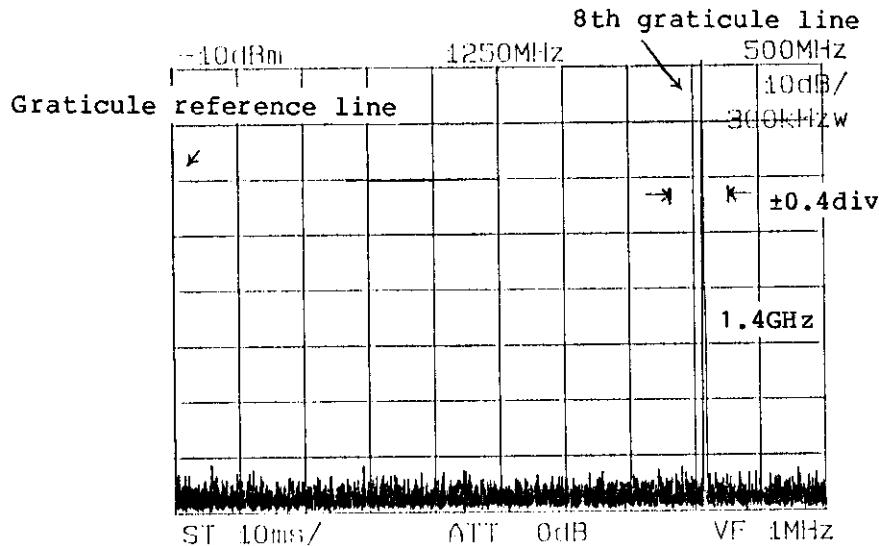

Figure 11-3 Frequency Span 500 MHz Test
- (8) Set the output of TR4511 synthesized signal source to -10 dBm, 1 GHz modulation off.
- (9) Turning the TUNING dial, adjust the 1 GHz input signal to the leftmost graticule on the display screen.
- (10) Set the output frequency of the TR4511 synthesized signal source to 1.4 GHz. Check that the signal is positioned on the eighth graticule from the leftmost graticule on the display screen (or within  $\pm 0.4$  division of the eighth graticule). (See Figure 11-3.)